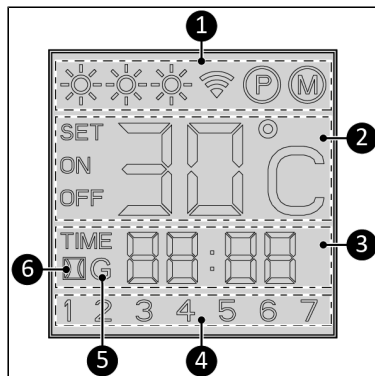

Figure 22.
Status indication (Figure 22, pos. 1):
Temperature indication (Figure 22, pos. 2):
Time indication (Figure 22, pos. 3):
Day indication (Figure 22, pos. 4):
Wi-Fi indication (Figure 22, pos. 5):
Open window detection (Figure 22, pos. 6):